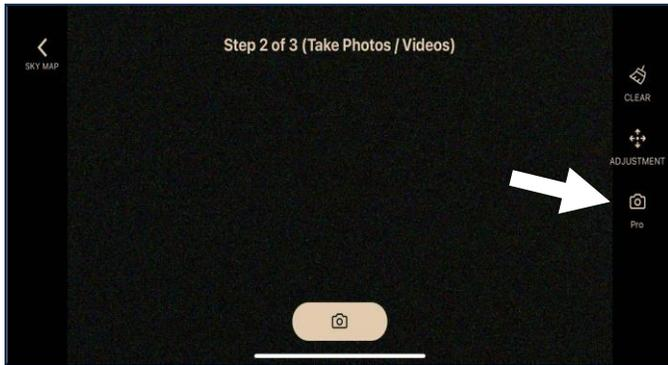

Fig. 5.1
2. **Enter Pro Mode:** Tap the "PRO" icon on the right side of the screen. See Fig. 5.1.